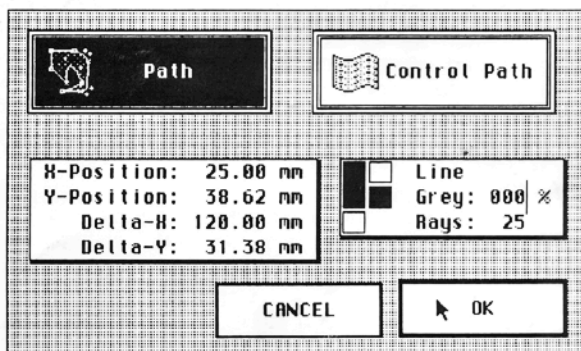

Fig 9. The primary function of this dialogue box, is to control the colours of the borders and patterns.
6). Now click on the Modify Object icon (see fig 9), which will present you with another dialogue box.